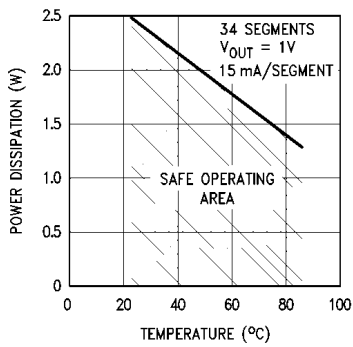
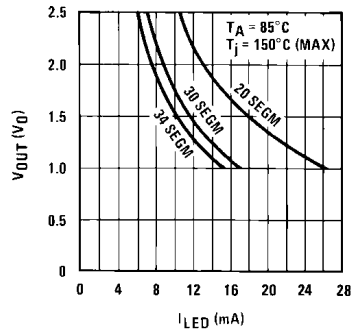

FIGURE 5
FIGURE 6
**Note 3:** See Figures 5, 6, and 7 for Recommended Operating Conditions and limits. Absolute maximum for each output should be limited to 40 mA.
**Note 4:** The  $V_{OUT}$  voltage should be regulated by the user. See Figures 6 and 7 for allowable  $V_{OUT}$  vs  $I_{OUT}$  operation.
The above equation was used to plot *Figure 5*, *Figure 6* and *Figure 7*.